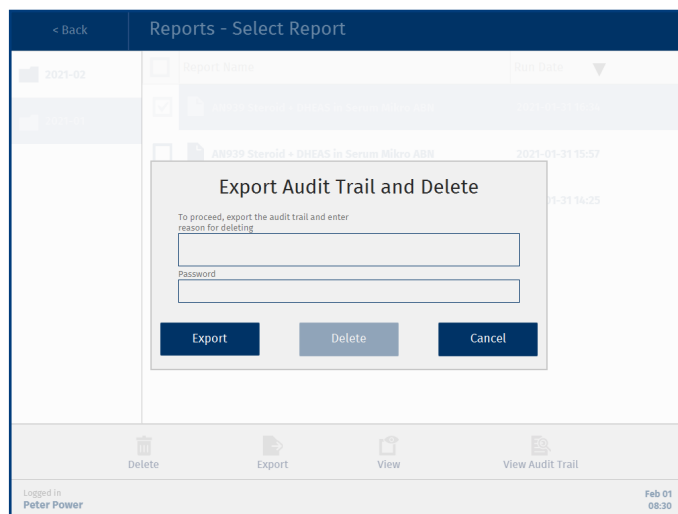

Figure 39. The Export Audit Trail and Delete dialog.
1. Select the report and press **Delete**. The **Export Audit Trail and Delete** dialog opens; see Figure 39. Note that only one report at a time can be deleted.